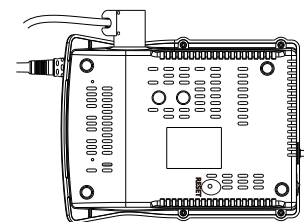

Figure 6
- Press the button in the round hole of the base cover of the main engine under the state of power on; (see figure 6).